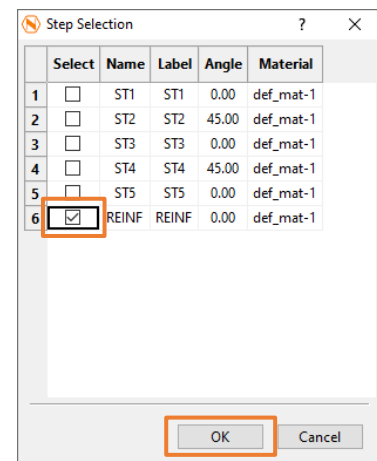

Figure 192
- Inside the Step Selection Dialog select the REINF step at position 6 (Figure 192).